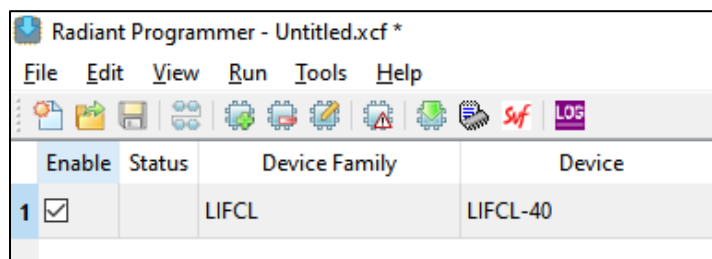

Figure 4.2. Radiant Programmer – Device Selection
3. Select **LIFCL** for **Device Family** and **LIFCL-40** for **Device** as shown in Figure 4.2.